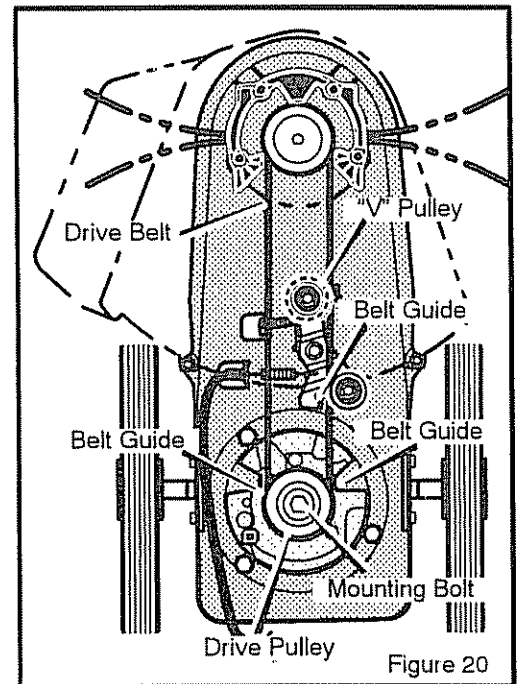

Figure 20
4. Raise the front of the **trimmer housing** and remove the **drive belt**. On some models, it is necessary to loosen the **mounting bolt** for the **drive pulley** to remove the drive belt (see Figure 20). Do not bend the belt guides
6. Check the routing of the **drive belt**. Make sure the **drive belt** is inside of all **belt guides** shown in Figure 20.